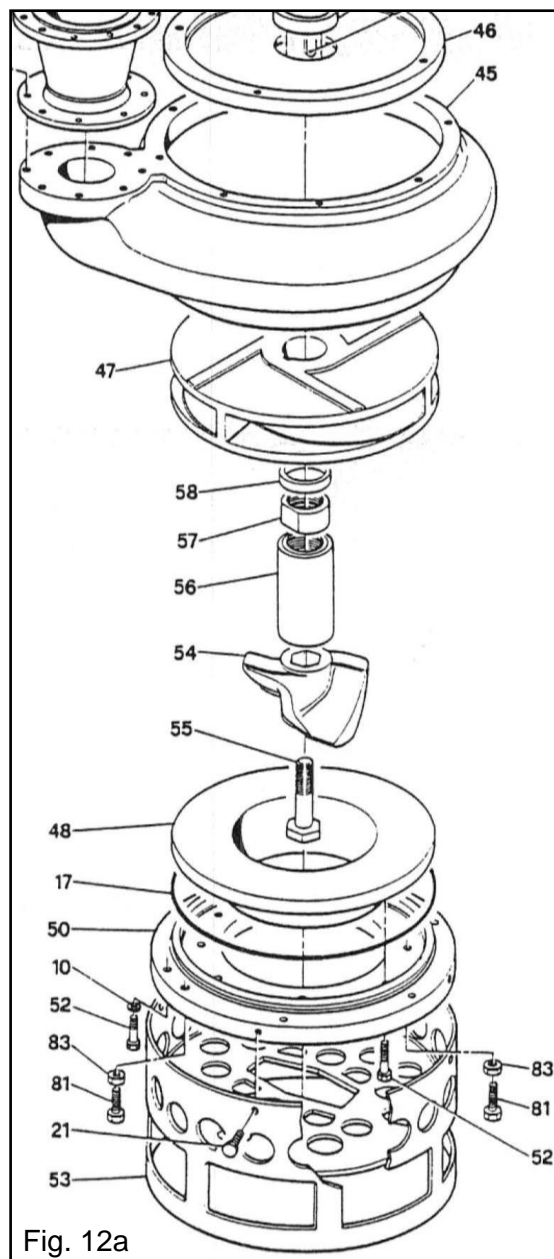

Fig. 12a
- Remove the connection **56 (Fig. 12a)**, then the nut **57** and the spacer **58**.